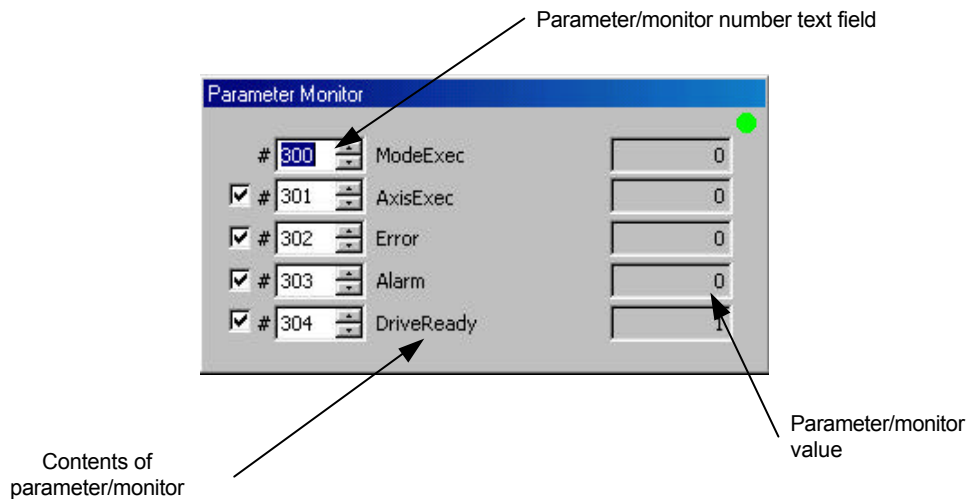

Figure 7.10 “Parameter Monitor” dialog box
In the “Terminal” menu, click “*Parameter/Monitor (M)*” under “Monitor” to display the “Parameter/Monitor” dialog box (see Figure 7.10).